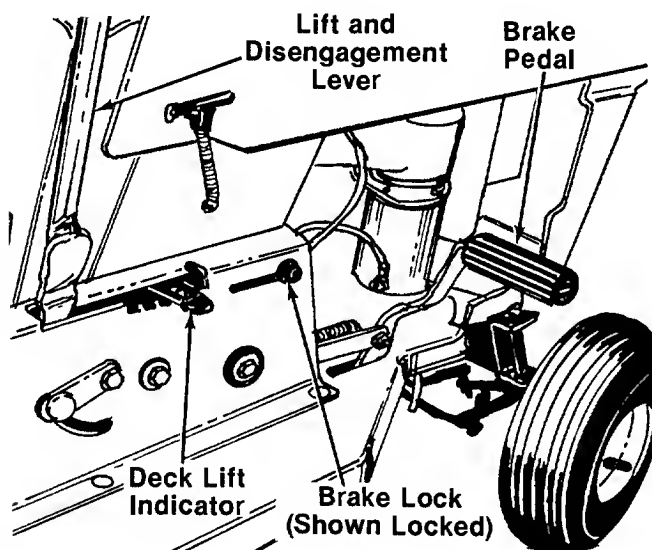

FIGURE 11.
The brake pedal is located on the right hand side of the tractor and is operated by depressing it with your right foot. See figure 11.
The brake lock is located on the right hand side of the tractor. To lock the brake, depress the brake pedal and lift up the lock button. The pedal will stay depressed. To release, depress the brake pedal. Always lock the brake when you park the mower. See figure 11.
The lift and disengagement lever is used to raise and lower the cutting deck. Pulling it all the way back and locking it disengages the blades. The lift and disengagement lever **must** be in the disengaged position when starting the engine and when shifting into reverse. See figure 11.
The deck lift indicator marks the position being used for the lift lever. Select the lift lever position desired, press the indicator lever outward, move it to the position immediately below the lift lever and release the indicator lever. See figure 11.
4. Place the lift and disengagement lever in the DISENGAGED position. See figure 11.